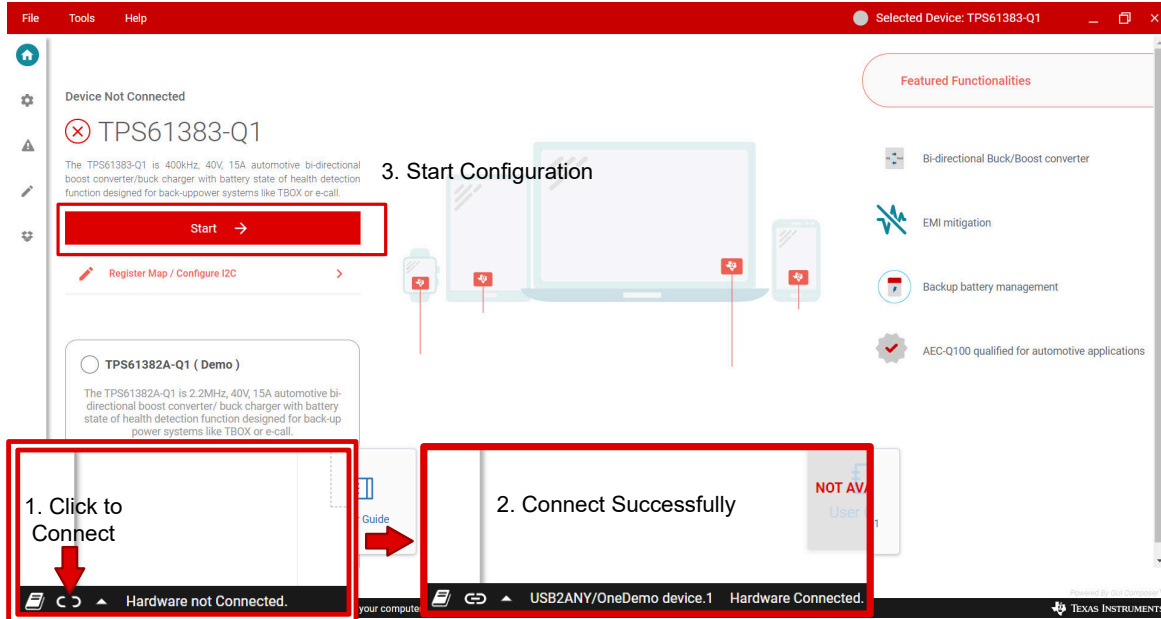

Figure 3-2. Connect and Start
- Select the connect button on the bottom bar, as Figure 3-2 shows. After connecting the GUI and device, the GUI reads all registers and shows a notification.